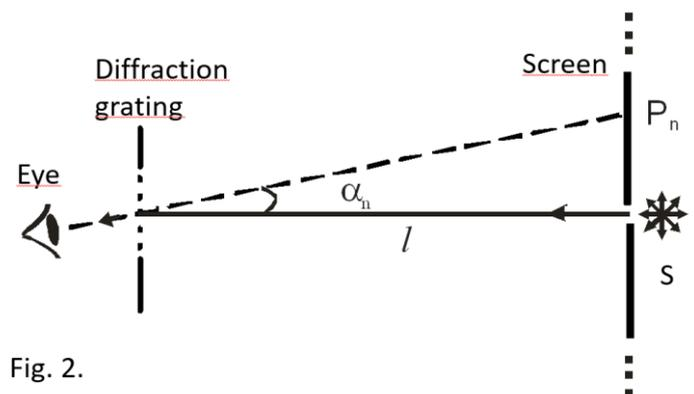

Fig. 2.
The scheme of the equipment setup is shown in Fig. 2. The light emitted by the  $S$  source passes through the slit in the screen and reaches the diffraction grating, placed on the stand at a distance of  $l$  from the screen. The diffraction grating is set parallel to the screen, and the scratches should be at the height of the slit (the direction of the scratches, like the slit in the screen, must be vertical). Behind the diffraction grating, the lens of the observer's eye creates an image of the diffracted picture on the retina. The observer will see a series of stripes of different colours on the right and left sides of the slit.
3. Calculate the sine of the deflection angle  $\alpha$ , (see Fig. 2):